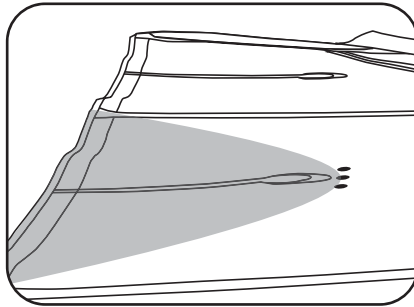

Figure 2: With no outhaul and the leech lying on the ground, downhaul until the looseness extends to the three black dots.
2) Downhaul your sail until the looseness extends to the three black dots printed between battens #2 and #3. (fig. 2).